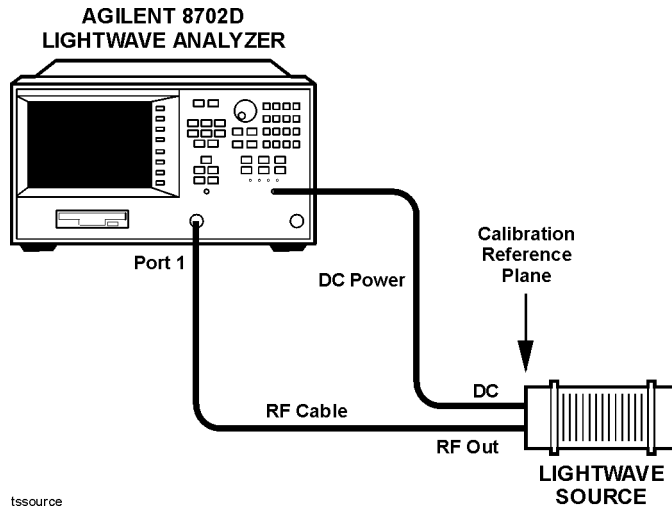

Figure 4-3. Electrical input port match test setup
- 1 Connect the equipment as shown in Figure 4-3.